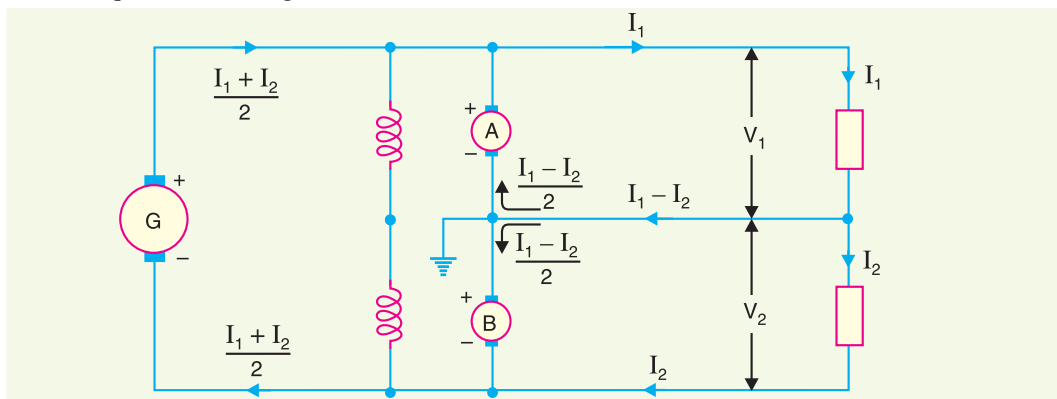

Fig. 13.59
Circuit details. Fig. 13.59 shows the use of a balancer set in a 3-wire d.c. system. The balancer consists of two identical shunt wound machines A and B coupled mechanically and having their armature and field circuits connected in series across the outers. The neutral wire is connected to the junction of the armatures as shown. The circuit arrangement has two obvious advantages. Firstly, only one generator (G) is required which results in a great saving in cost. Secondly, the balancer set tends to equalise the voltages on the two sides of the neutral.
For the condition shown in Fig. 13.59, the machine *B* acts as a motor and machine *A* as a generator. The out of balance current $I_1 - I_2$ flows through the middle wire towards the balancers. Assuming the internal losses of the two machines to be negligible, then armature currents will be equal. Hence, one-half of the current in neutral i.e. $(I_1 - I_2)/2$ will flow through each machine as shown.